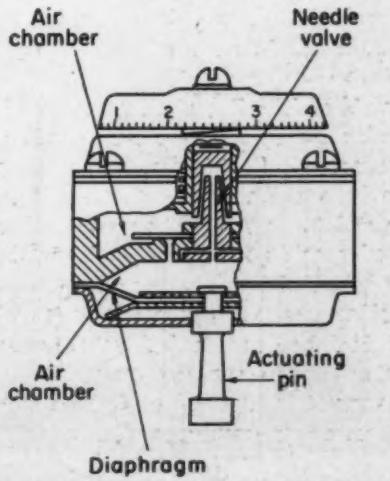

Fig. 16—Right—Sectional view of the timing mechanism for the pneumatic timer
**PNEUMATIC:** The pneumatic timing relay depends on the restricted flow or transfer of air through an orifice. On most relays of this type, *Fig. 15*, a fixed volume of air is forced from a chamber through a check-valve mechanism by means of a diaphragm. Air is then pulled back into the chamber by the diaphragm through a restricted opening. The size of the opening is varied by a needle valve arrangement. The smaller the opening, the longer the time required to refill the chamber with air, the delayed entering of the air into the chamber restricting the motion of the diaphragm. This motion is transmitted by a link mechanism to a contact mechanism. Referring to *Fig. 16* illustrating a typical construction, when the actuating pin, attached to the rubber diaphragm, is raised by action of the magnet frame, air in the lower air chamber is forced through the air passage into the upper air chamber. Timing is initiated when the force on the actuating pin is removed. The diaphragm then tends to move downward due to the action of a spring and is retarded by the air returning to the lower air chambers through the needle valve.